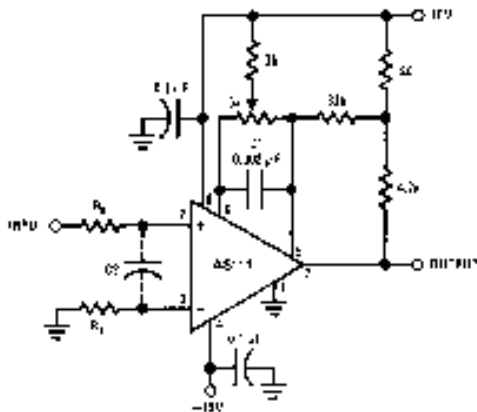

FIGURE 1. Improved Positive Feedback
However, when the input signal is a voltage ramp or a slow sine wave, or if the signal source impedance is high (1 k $\Omega$  to 100 k $\Omega$ ), the comparator may burst into oscillation near the crossing-point. This is due to the high gain and wide bandwidth of comparators like the AS111. To avoid oscillation or instability in such a usage, several precautions are recommended, as shown in Figure 1 below.
inputs. If these pins are not connected to a trim-pot, they should be shorted together. If they are connected to a trim-pot, a 0.01  $\mu\text{F}$  capacitor C1 between pins 5 and 6 will minimize the susceptibility to AC coupling. A smaller capacitor is used if pin 5 is used for positive feedback as in Figure 1.
7. When both inputs of the AS111 are connected to active signals, or if a high-impedance signal is driving the positive input of the AS111 so that positive feedback would be disruptive, the circuit of Figure 1 is ideal. The positive feedback is to pin 5 (one of the offset adjustment pins). It is sufficient to cause 1 to 2 mV hysteresis and sharp transitions with input triangle waves from a few Hz to hundreds of kHz. The positive-feedback signal across the  $82\Omega$  resistor swings 240 mV below the positive supply. This signal is centered around the nominal voltage at pin 5, so this feedback does not add to the  $V_{OS}$  of the comparator. As much as 8 mV of  $V_{OS}$  can be trimmed out, using the 5 k $\Omega$  pot and 3 k $\Omega$  resistor as shown.